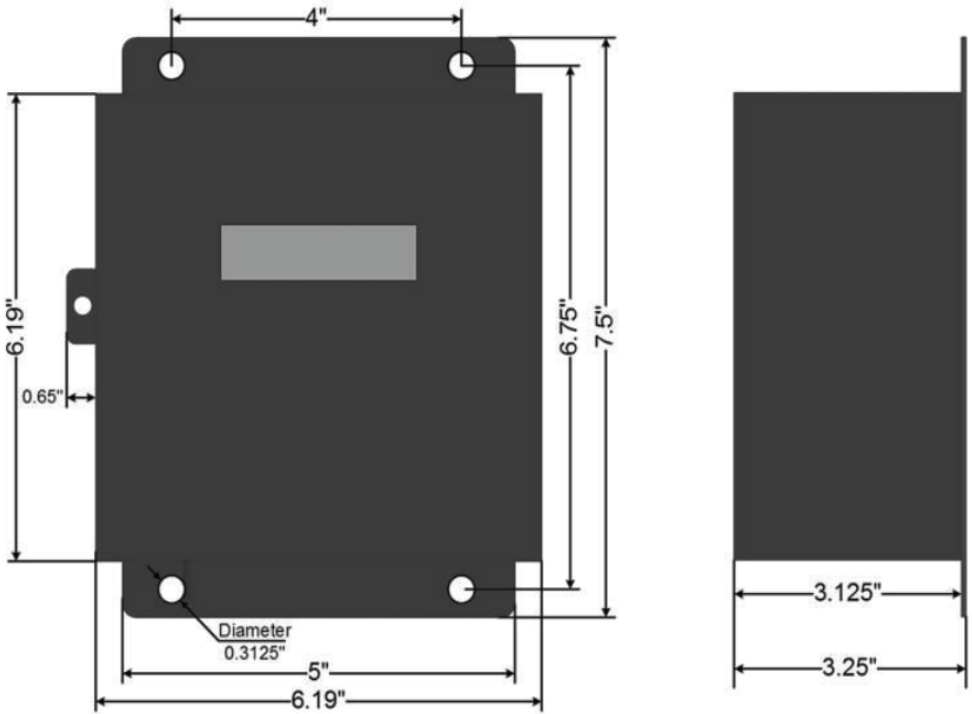

Figure 1: Steel enclosure dimensions
1. Industrial grade JIC steel enclosure for indoor installations, shown in Figure 1.